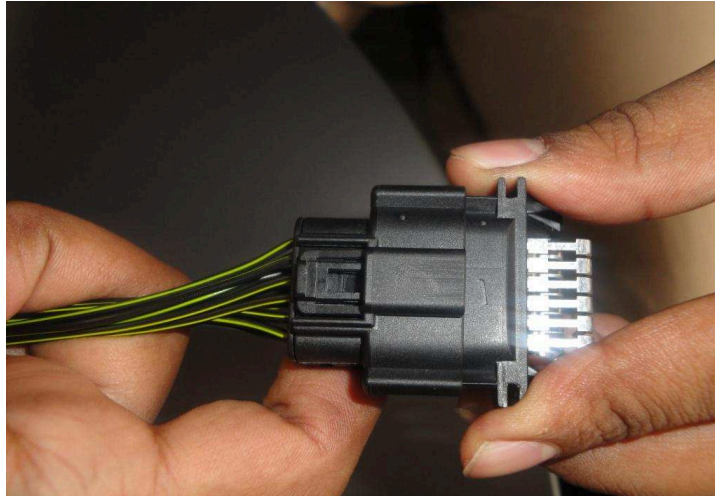

FIG. 1
1) Hold the connectors as shown in Fig 1. (header will be in control unit)